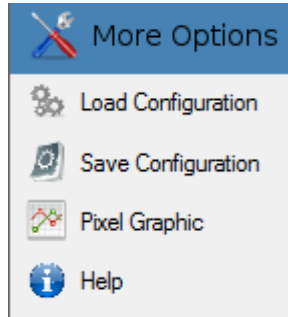

Figure 11: Menu More Options
- Menu More Options (figure 11)